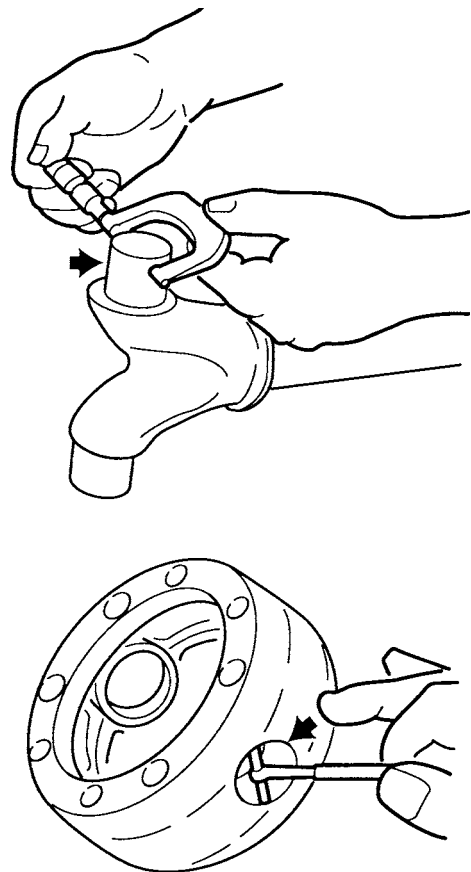

Figure 4 Check Axle Trunnion Wear
1. Measure axle shaft trunnions. (See Figure 4).
2. Assemble cage ring halves and measure bore. (See Figure 4).